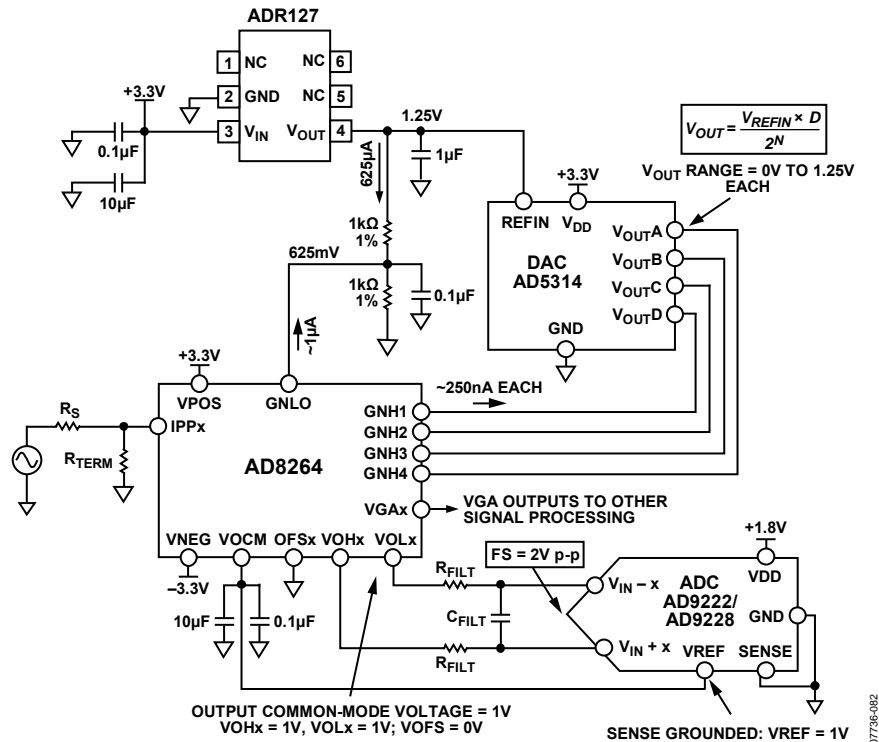

Figure 112. Application Concept of the AD8264 with the AD5314 10-Bit DAC and the AD9222/AD9228 12-Bit ADC
The AD8264 is particularly well suited for use in the analog front end of medical PET imaging systems. Figure 112 shows how to use the AD8264 with the AD5314 (a 4-channel, 10-bit DAC) and the AD9222/AD9228 (an octal or quad, 12-bit ADC, respectively). The DAC sets the gain of the AD8264. Note that the full gain span of 24 dB is achieved with this setup because the gain control input range of the AD8264 is very close to 1.25 V. The GNLO pin must offset by $1.25/2 = 625$ mV because the gain control input is bipolar around the voltage applied at GNLO. This is done with two 1 k Ω , 1% resistors. The approximately 1 μ A of bias current flowing from the GNLO pin does not contribute a significant error because the basic gain error of the AD8264 is the limiting factor.
Figure 112 also includes the DAC output equation, which indicates that the output can vary between 0 V and $V_{REF} = 1.25$ V.
The single-ended-to-differential amplifier of the AD8264 amplifies the VGA output signal by 6 dB and can provide the required dc bias of the AD9222/AD9228, as shown in Figure 112. The ADC is connected with the default internal reference because the SENSE pin is grounded. With this connection, the AD9222/AD9228 VREF pin is an output that provides 1 V; this is then connected to the VOCM input of the AD8264, which sets the output common-mode voltage of the VOHx and VOLx pins to 1 V. This voltage is very close to the recommended optimal value of $V_{DD}/2 = 0.9$ V. With this configuration, the ADC inputs are set to a full-scale (FS) of 2 V p-p.
The dc connected concept example in Figure 113 is an application with the 40-channel AD5381, 3 V, 12-bit DAC. The main difference between this example and Figure 112 is that, for the same ADR127 1.25 V reference, the full-scale output of the DAC is from 0 V to $2 \times V_{REFIN} = 2.5$ V. Two options for gain control include the following:
- Use the same circuit as in Figure 112 but use only half the DAC output voltage from 0 V to 1.25 V. This is the simplest solution, requiring the fewest extra components. Note that the overall gain resolution increases by one bit to 11 bits over the 10-bit AD5314.
A convenient method of verifying and customizing the signal chains shown in Figure 112 and Figure 113 is by ordering the corresponding evaluation boards available on www.analog.com. The AD8264-EVALZ is a platform through which the user can quickly become familiar with the features and performance capabilities of the AD8264. See the Evaluation Board section for more information.